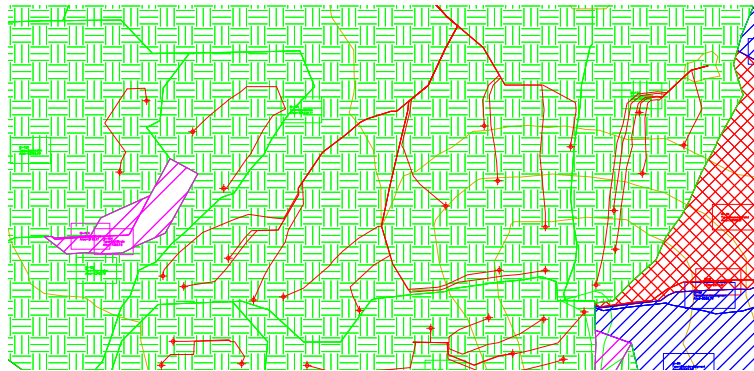

Figure 4-49 Polyline and markers displaying the path of water flow
- Zoom in the bottom of the surface and click at different locations; the polylines and markers are displayed, as shown in Figure 4-49.